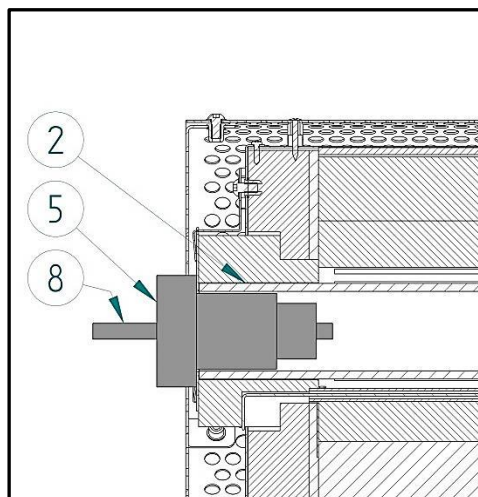
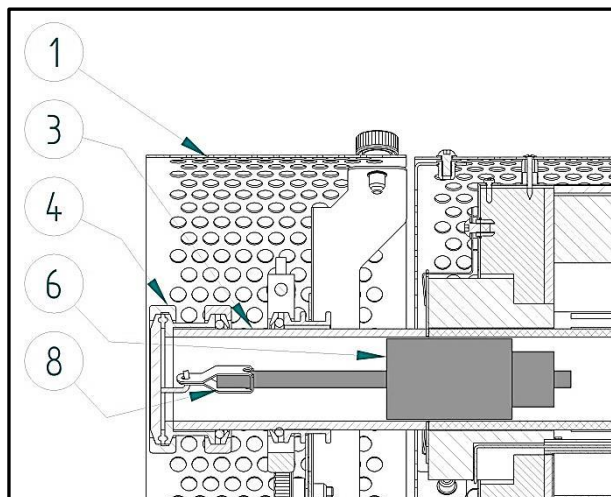
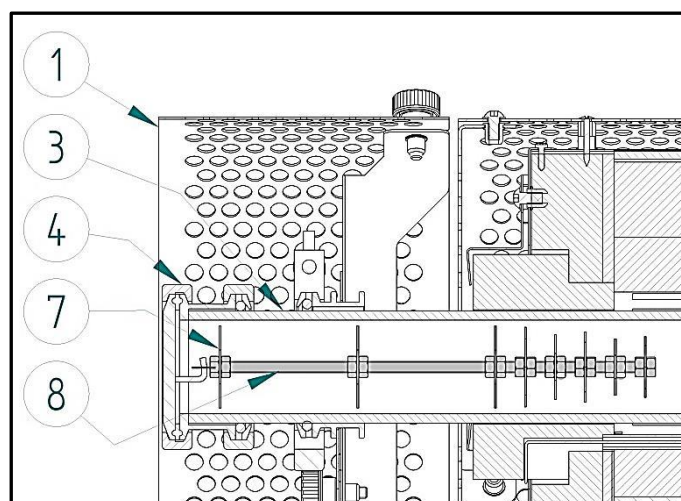

Figure 2-21. Cross-section view showing standard length work tube insulation plug fitted.
Figure 2-20. Cross-section view showing extended work tube insulation plug fitted.
Figure 2-22. Cross-section view showing extended work tube radiation shield fitted
For optimum temperature uniformity insulating plugs or radiation shields should be placed in the work tube ends as shown in Figure 2-21, Figure 2-20 and Figure 2-22. With an extended work tube the stem (8) of the insulation plug assembly lines up with the end of the work tube.
If a gas/vacuum end seal is fitted (4), either horizontally or vertically, the insulation plug hooks onto the end seal hook; see Figure 2-20.
Alignment of radiation shields is similar to that of insulation plugs see Figure 2-22.
Index to numbered items in Figure 2-21, Figure 2-20 and Figure 2-22